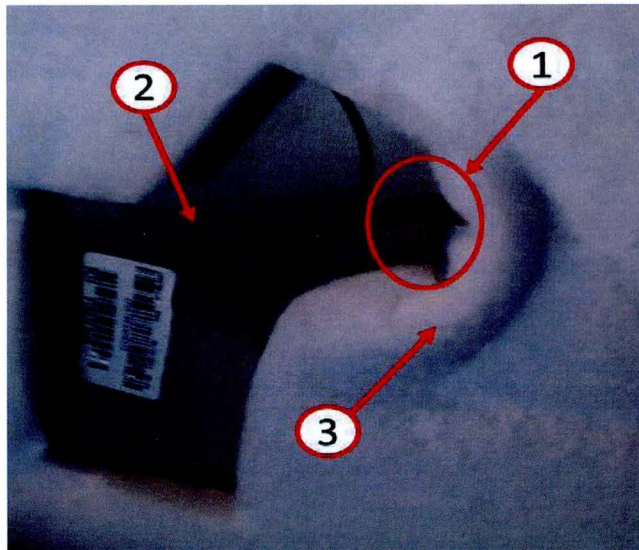

Fig. 2 Standoff Removal
2. Remove the standoff from the back side of each door panel (Fig. 2).